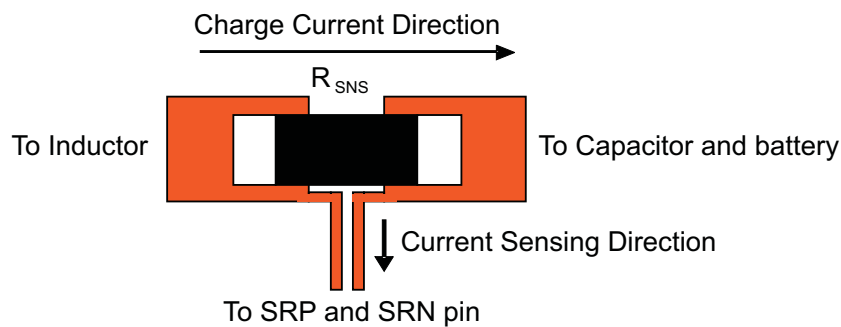

Figure 22. Sensing Resistor PCB Layout
4. The charging current-sensing resistor should be placed right next to the inductor output. Route the sense leads connected across the sensing resistor back to the IC in same layer, close to each other (minimize loop area) and do not route the sense leads through a high-current path (see Figure 22 for Kelvin connection for best current accuracy). Place decoupling capacitor on these traces next to the IC